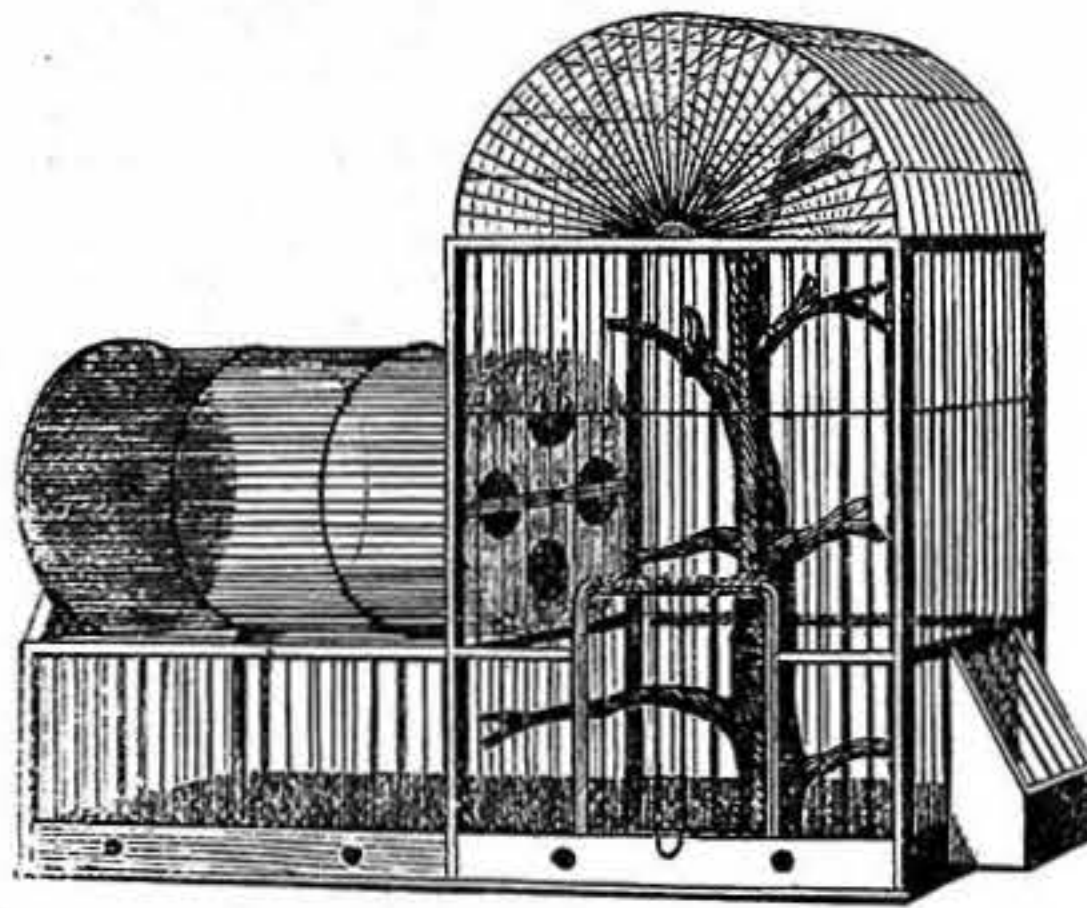

Fig. 1.—A Squirrel's Cage with Branch of Tree and Revolving Wheel.
Lady's Work Box.—Fig. 1.—Box Closed. Fig. 2.—Box Open. Fig. 3.—Plan of one Corner. Fig. 4.—Plan of fixed Top Board to which are hinged the Lids. Fig. 5.—Section of Removable Top Piece shown between the Lids in Fig. 1.—Fig. 6.—Fastening for the Flaps in Lids.
double lid which will not recommend it to an impatient lady. Mitre and screw four narrow pieces to a whole board. Fill the space of it partly up with a fixed board, and to it hinge a companion flap, the latter with a fastening (Fig. 6) attached. This makes one lid. A rail, in section like Fig. 5, is needed to retain the lids as in Fig. 1—nothing more, unless to provide against dishonesty. Have a fixed slotted rail (Fig. 4) across the top of the box, and screw two narrow pieces to the backs of the lids, as in Fig. 1, to enter the slot, and you will find that, by removing the cross-rail, the lids can be opened as in Fig. 2. In my limited space I cannot show how the ends of the removable cross-piece must be cut, nor the distance apart the lids must be hinged; but a little thought will make it all clear to you. Arrive at best size by cutting and arranging cardboard. Place in our hands another query concerning covering of small lids.—J. S.
A Squirrel's Cage.—HUGH.—In making a cage for squirrels, or, in fact, a cage to keep any of the rodents or gnawing animals in, one thing has to be borne in mind, namely, keep the woodwork protected from teeth. The cage illustrated in Fig. 1 is made of $\frac{1}{2}$ in. angle bar, zinc bottom and false bottom, the only wooden parts are the round discs for the wheel. These are of $\frac{1}{2}$ in. mahogany, covered on the inside with tin. A small brass tube forms the bearings of the axle. The branch of a tree is not fixed to the bottom, but is suspended from the top,
Speculum Grinding.—W. B. (*Bruntcliffe*).—Detailed notes on this subject will eventually appear in the ordinary columns of WORK. Meantime, I sufficiently answer your queries to enable you to go on. The rough edges may be taken off the glass disc either with an ordinary grindstone, using plenty of water, or with a lathe. In the latter case, cement a piece of wood to each face of the glass disc, and mount the whole in the lathe so that it runs true. Get a piece of soft sheet-iron about 18 in. by 3 in. Bend it as in Fig. 1, and clamp it by the part marked A to the tool-rest of the lathe. Bring it under the glass, as in Fig. 2. Feed sand, or coarse emery and water down in the direction of the arrow. The cutting substance will imbed in the soft iron, which will spring to the irregularities of the glass edge, but at the same time cut them away. As the edging approaches completion, the other end (C) of the iron band may be secured, and the disc may